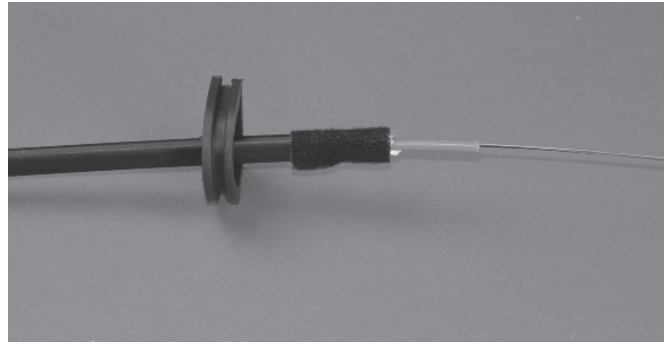

Figure 3
4. Remove left rubber grommet seal from the box. Pierce the port seal and insert the cable through it. Slide the seal up the cable about three feet. (Figure 3)